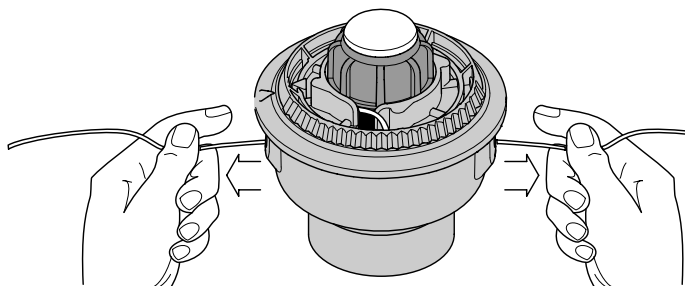

Figure 20
9. If winding the line becomes difficult or if the line jams, pull the ends of the line from the spool. See Figure 20. Continue winding the inner reel counterclockwise.
If the SpeedSpool® does not release line correctly, pull the ends of the line firmly from the spool. See Figure 20. If this does not release the line, follow the *Cleaning the SpeedSpool®* instructions.